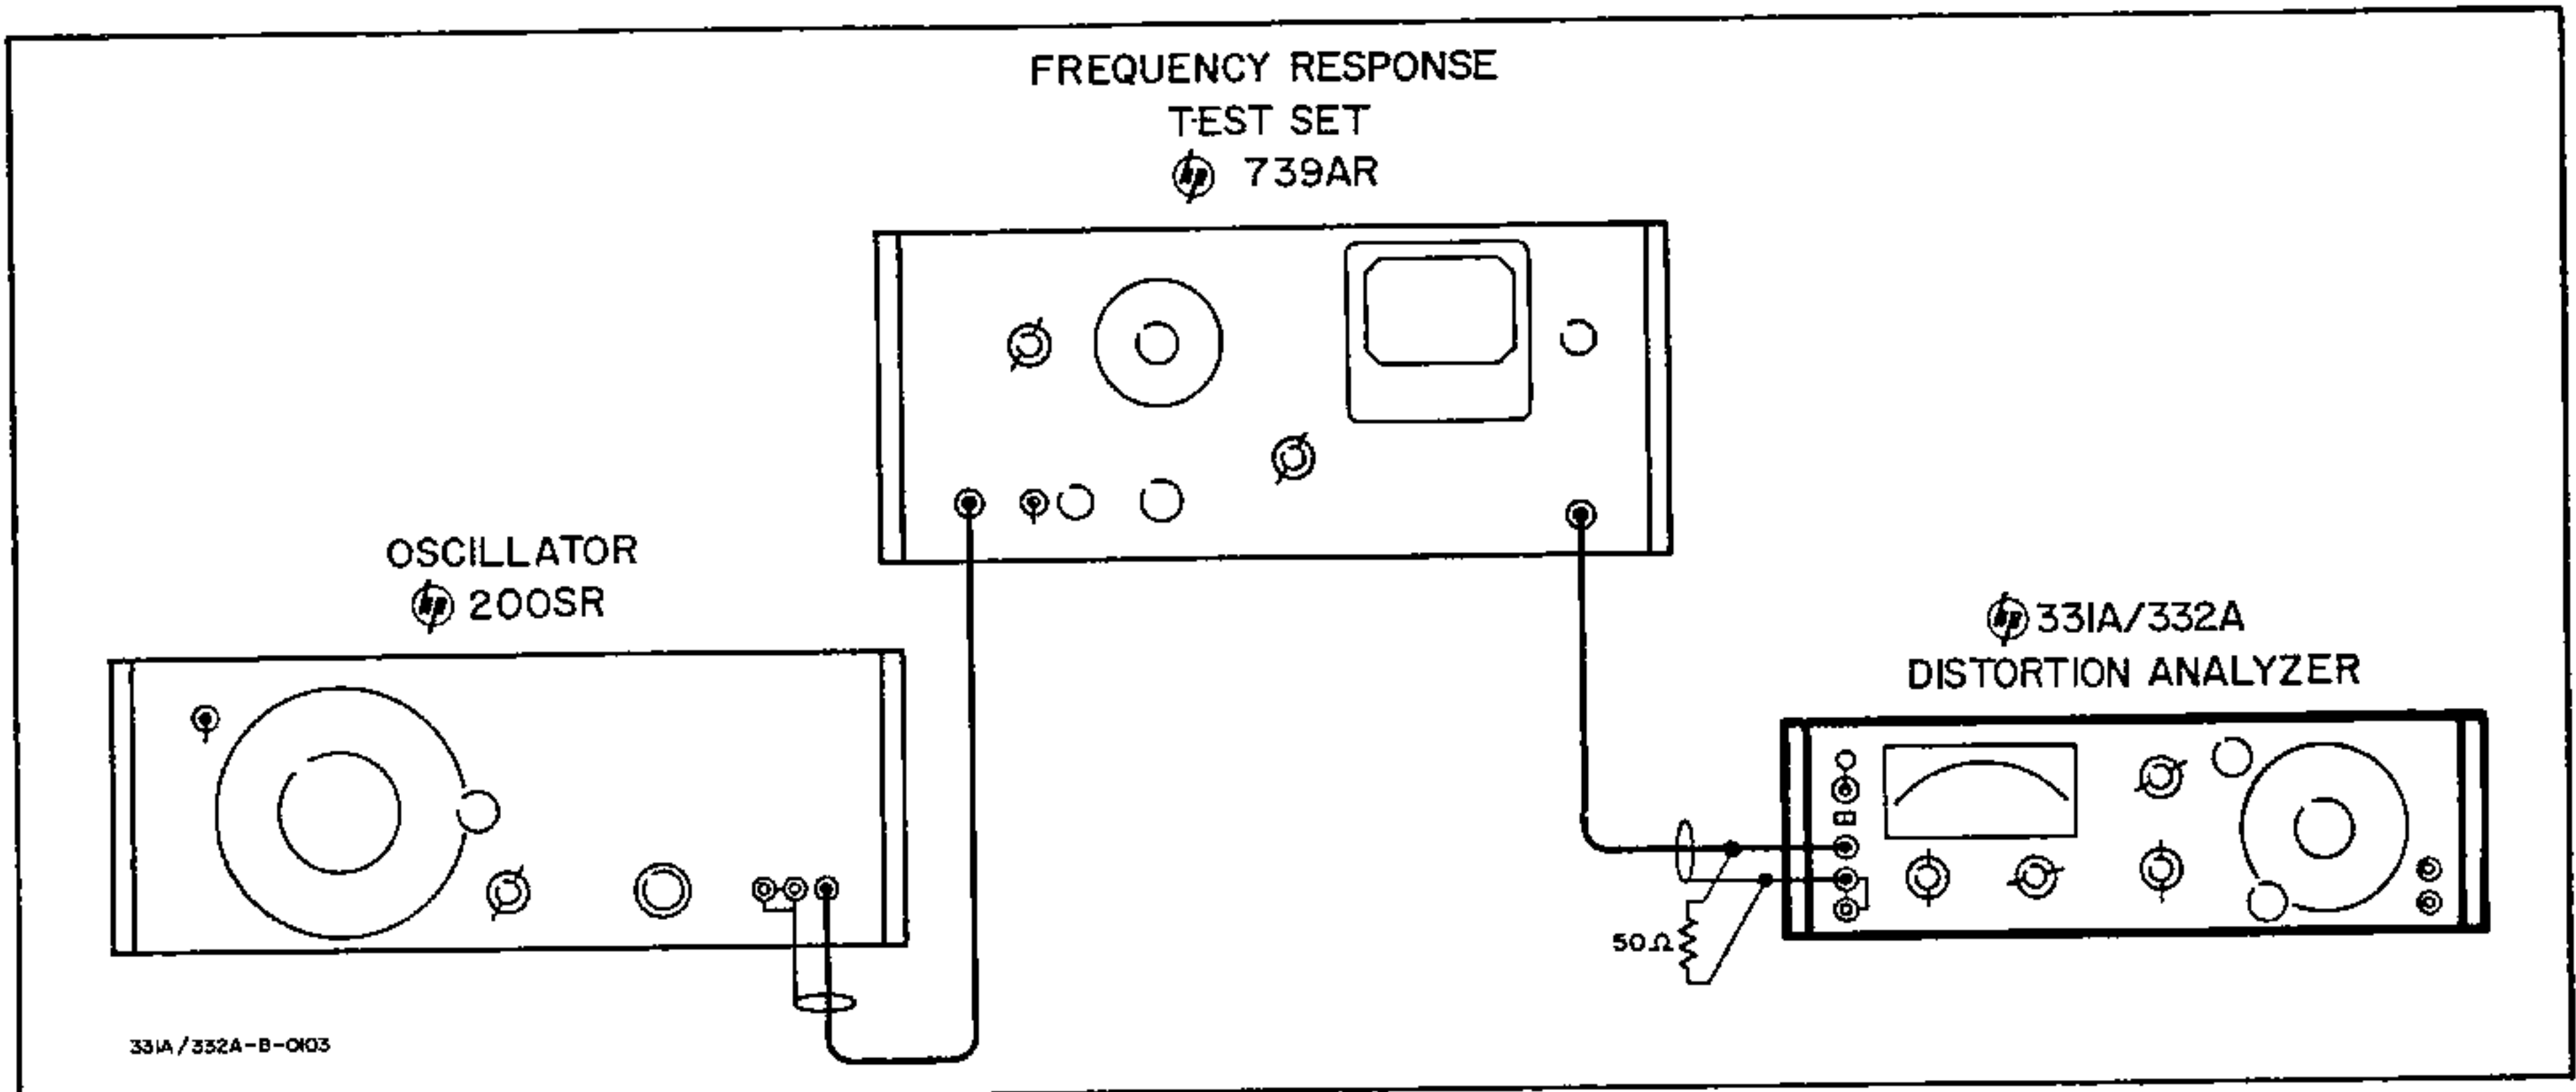

Figure 5-7. Test Setup for Voltmeter Frequency Response Check and Adjustment and Sensitivity Switch Calibration
- a. Connect 331A/332A as shown in Figure 5-7.
- d. Remove the 600 Ω resistor. Connect a shielded 100 K ohm resistor across the INPUT terminals. (See Figure 5-7 for details on constructing shielded load.)
- a. Connect instruments as shown in Figure 5-7.